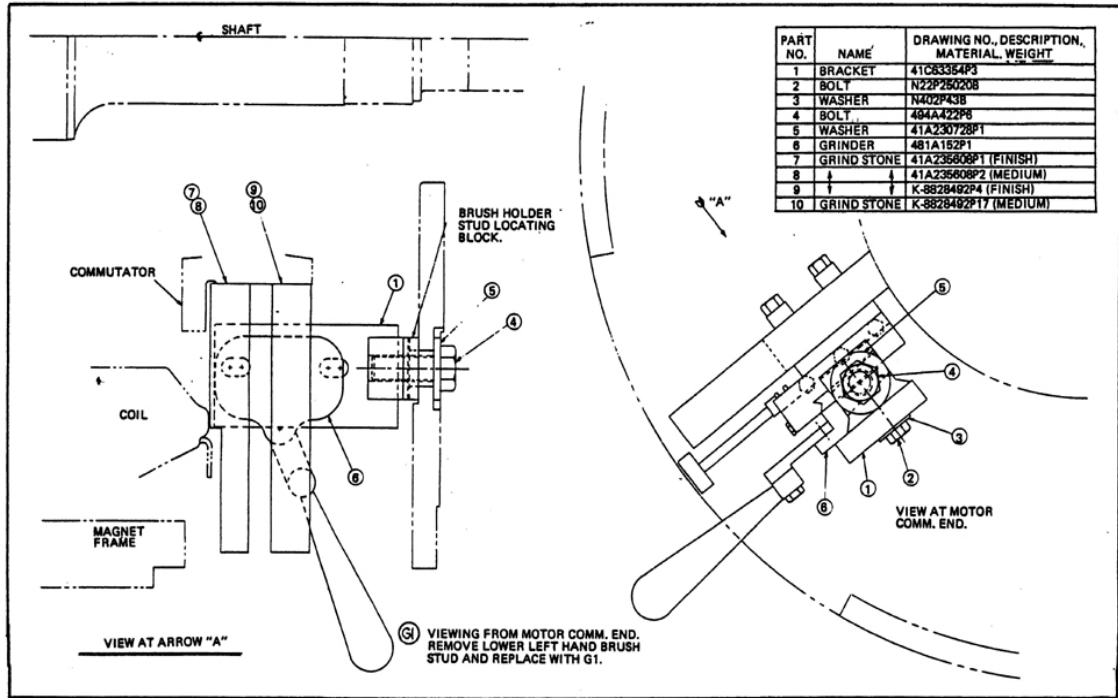

FIG. 6-6. COMMUTATOR GRINDER ASSEMBLY. E-18474
- j. Retract the radial carriage slide and assemble the grinder stones first cutting the wood on the top of the inner stone to the shape as shown in figure 6-6. This will allow the stone to sweep to the inner edge of the brush surface. If new stones are used, contour the ends on a Carborundum wheel to approximately fit the curvature of the commutator at the desired angle.